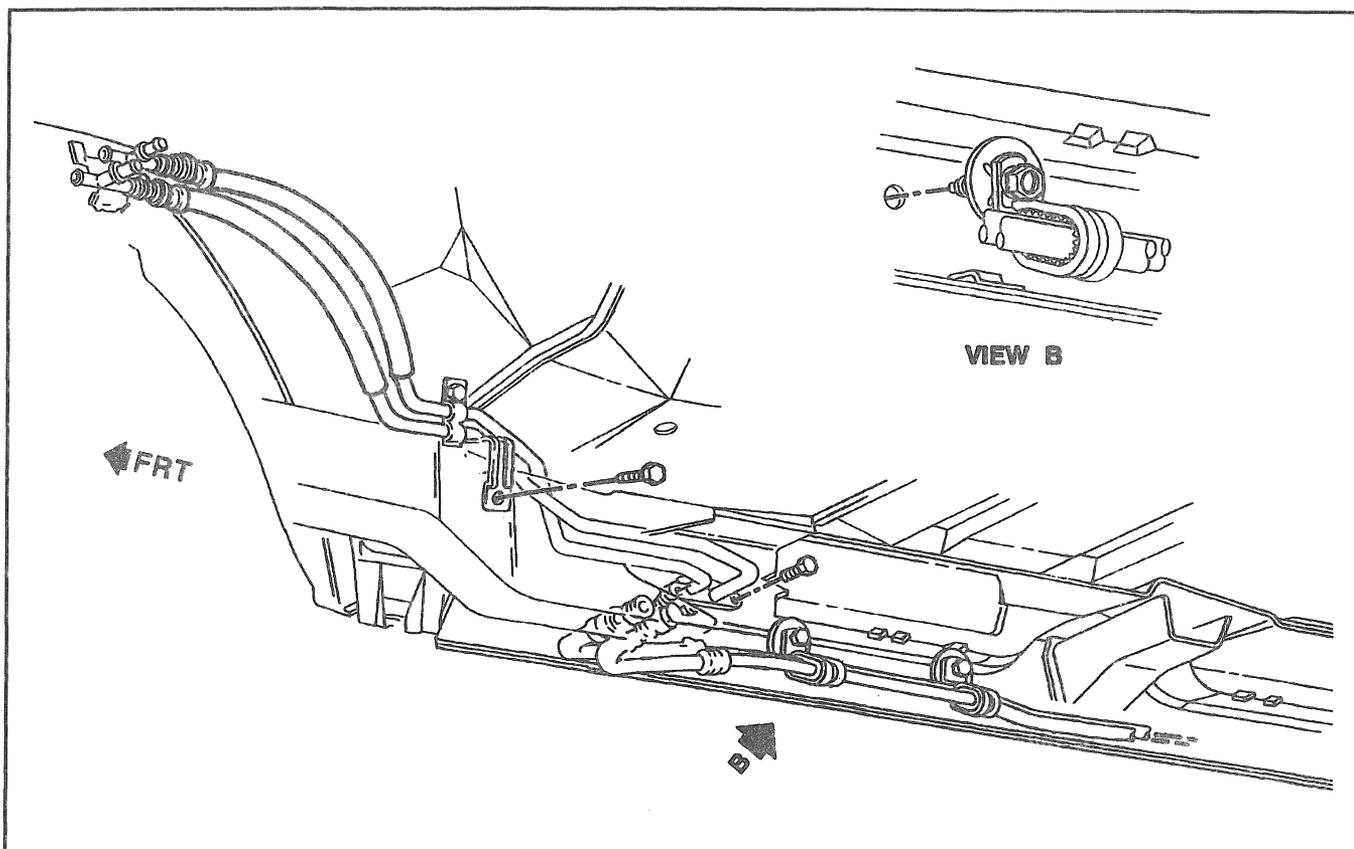

Figure 23—Auxiliary Heater Hose Assembly Routing (Front)
**→←** Install or Connect (Figure 23)
**↔** Remove or Disconnect (Figures 23 and 24)
### Install or Connect (Figures 23 and 24)